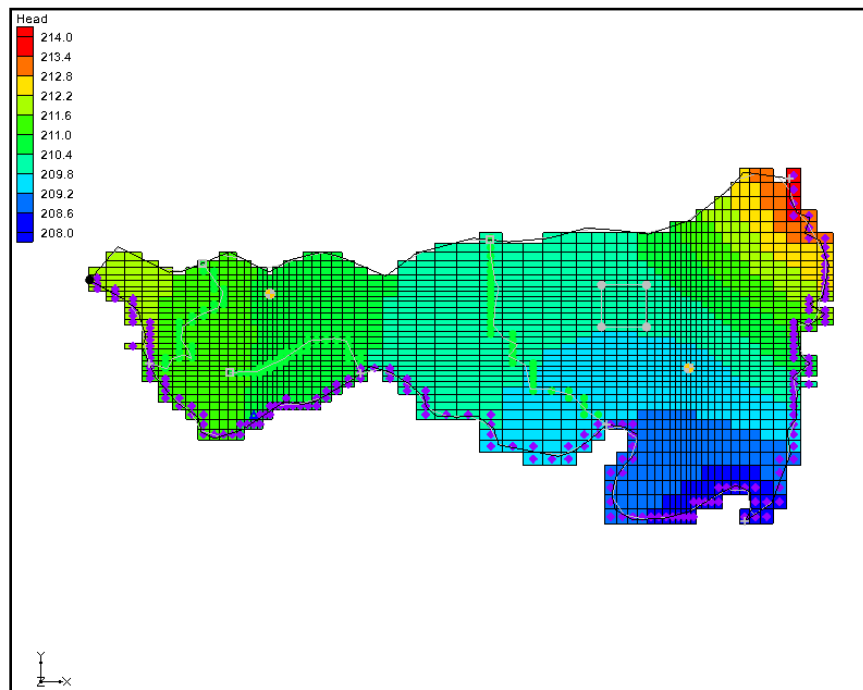

Figure 1 Initial appearance of the Graphics Window
The Graphics Window should appear similar to Figure 1.
- Extends a set of pathlines from each well in the direction the particles will flow. Notice that the pathlines from the east well extend to the northeast and miss the area covered by the proposed landfill (the gray square to the northwest of the east well, see Figure 1).